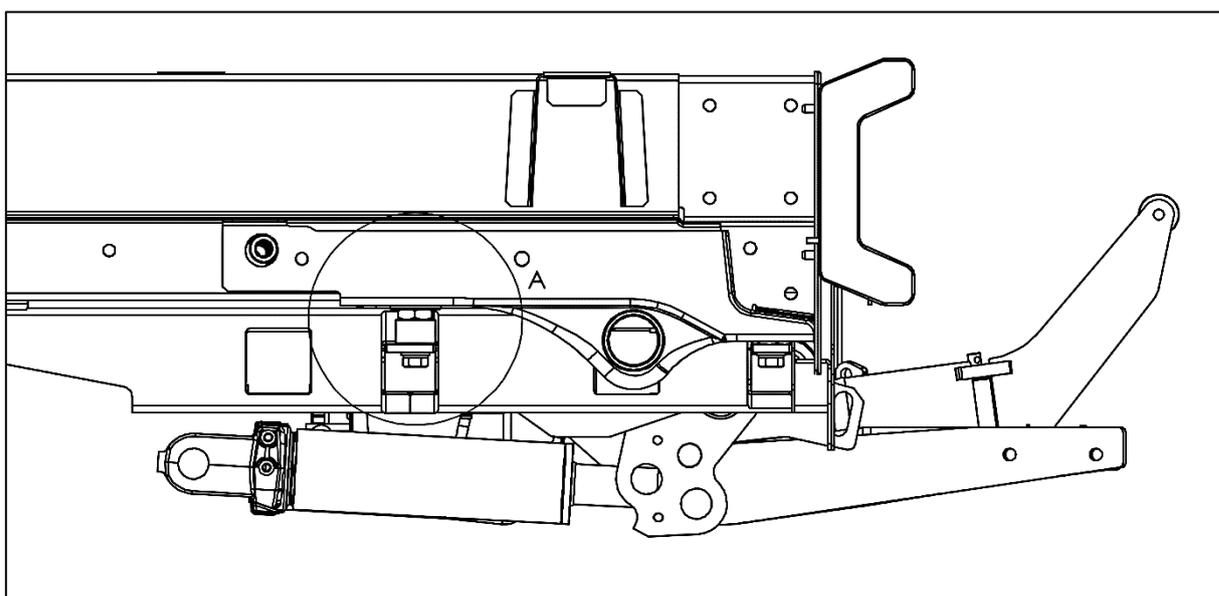
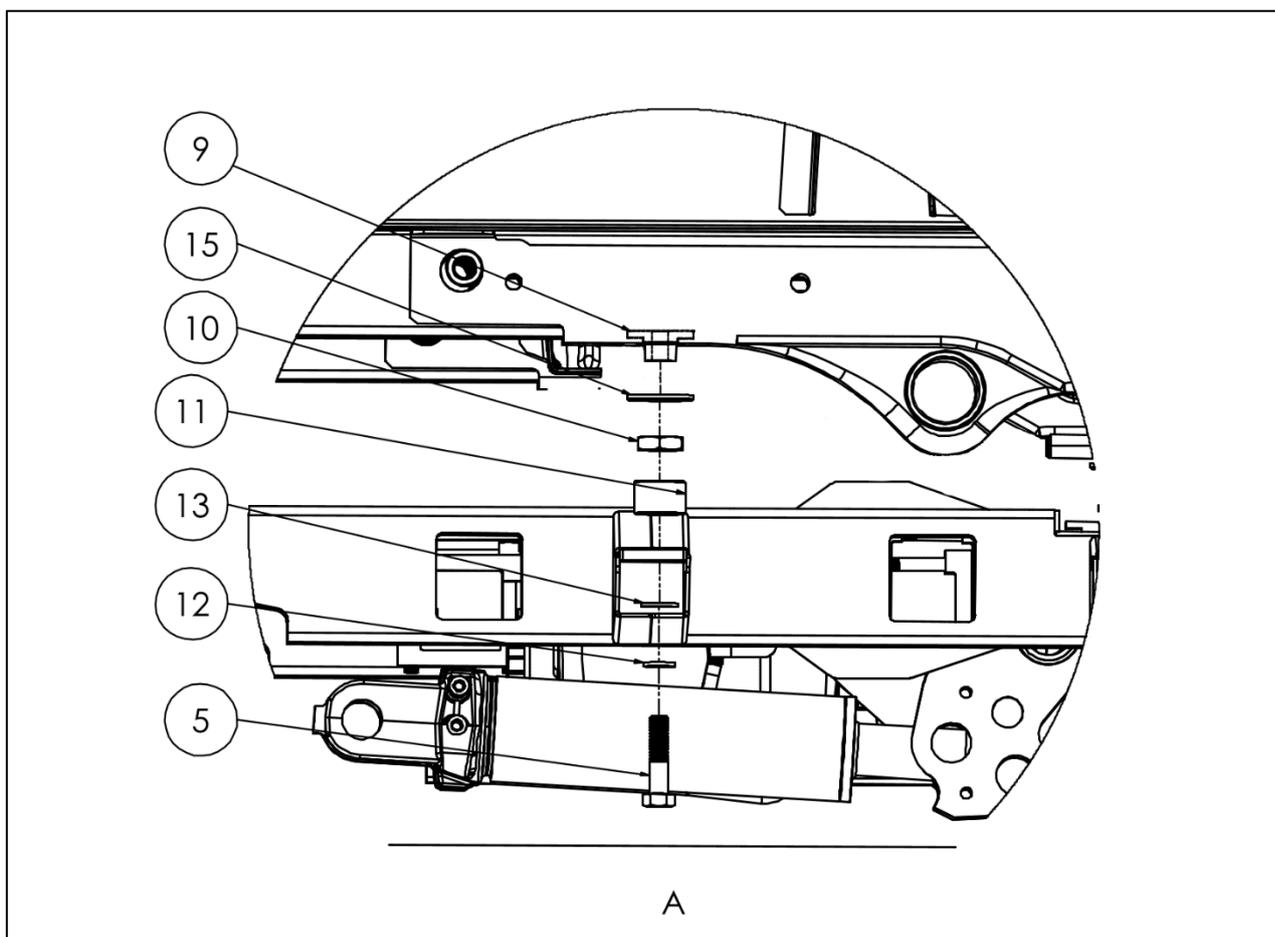
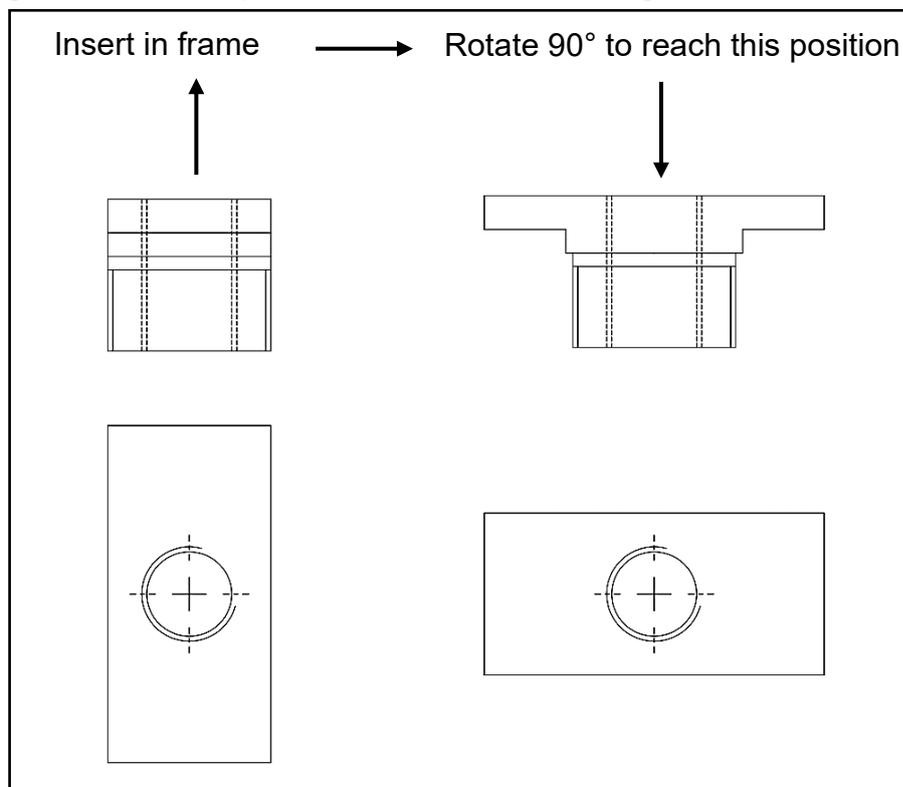
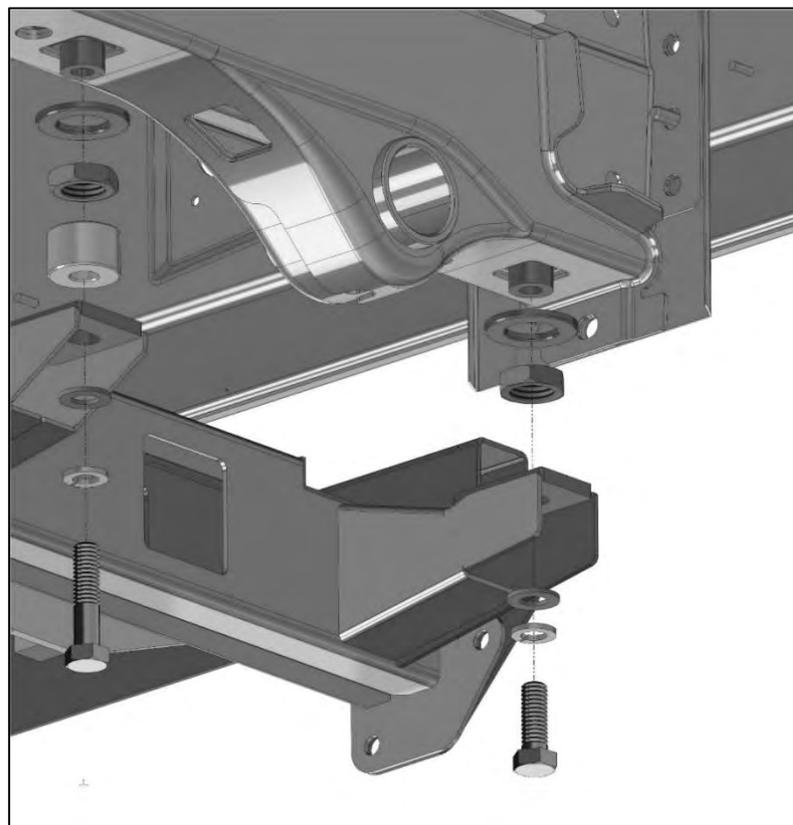

Figure 25
Figure 26
Figure 27
Figure 28
- Raise the lifting gear. Insert the rear and front parts as viewed in the forward direction of travel and tighten until hand-tight as shown in Fig. 25 and Fig. 26, with more details in Fig. 28 on page 23.
Install the holder 20 908 098 in the vehicle by rotating it 90° from the position shown in Fig. 26, then turning it in its correct position for it to hold. See Fig. 27 for reference.